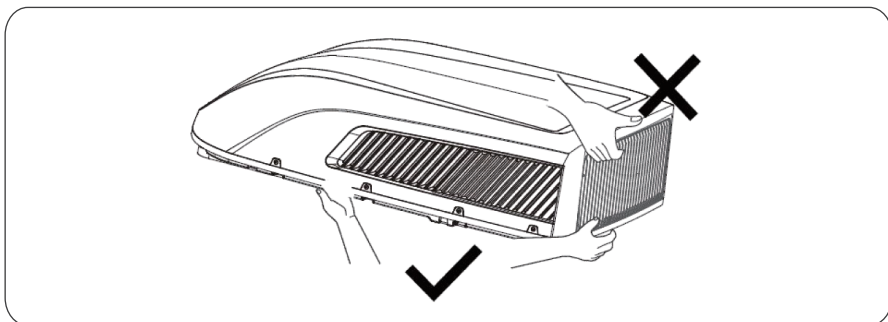

Figure 2
- Carefully lift the outdoor unit with the package on top of the vehicle. Do not use the outer plastic shroud for lifting. Do not lift by the air outlet grille at the back of the outer case (see Figure 2).